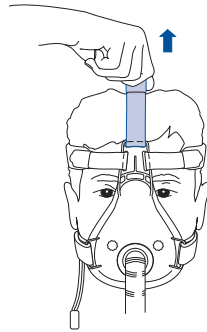

Figure: 5
- 5 Adjust the top Velcro strap (Fig. 5) with very slight tension to add stability to the fit of the mask. The mask should be secure but not overly tight.